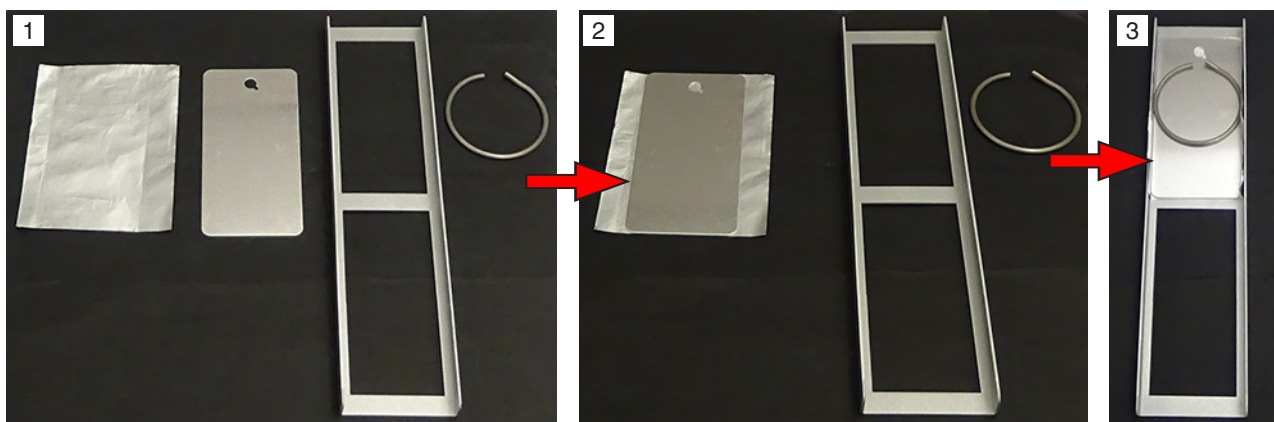

Figure 12.5o: Thin film mounted in panel holder.
- Thin films and textile specimens can be wrapped around a standard panel and mounted in a holder (Figure 12.5o).